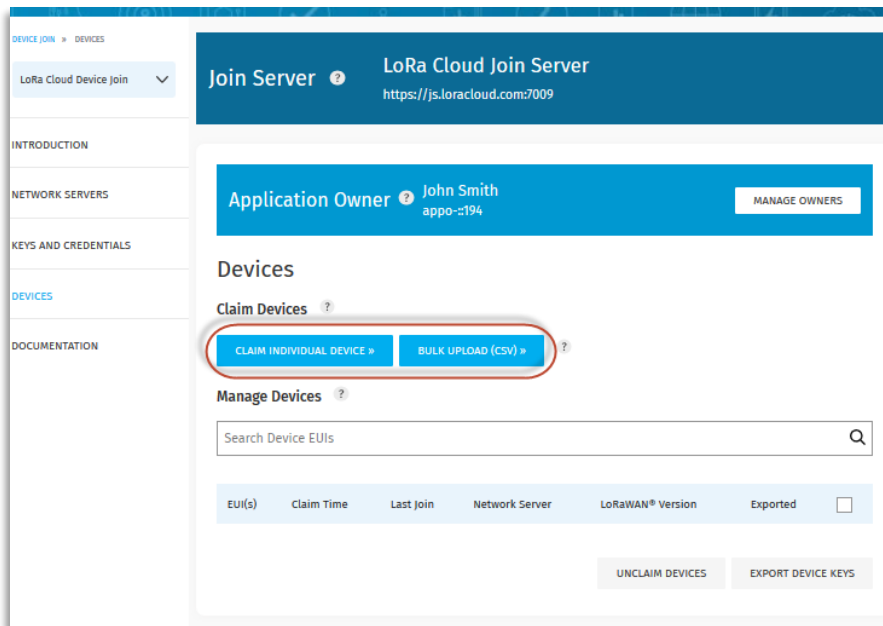

Figure 73: LoRa Cloud Join Server Device Claim Options
7. On the **Join Server** page, under the **Devices** header, you will have two options: **Claim Individual Device** or **Bulk Upload (CSV)**, as illustrated in Figure 73.
The screenshot shows the 'Claim Device' form. It has a sidebar on the left with the same navigation links as Figure 73. The main content area has a header 'Claim Device'. Below it is a form with five input fields: 'EUI*', 'PIN*', 'CHIP EUI', 'JOIN EUI', and 'EXTRA'. At the bottom of the form are two buttons: 'CANCEL' and 'CLAIM DEVICE »'.